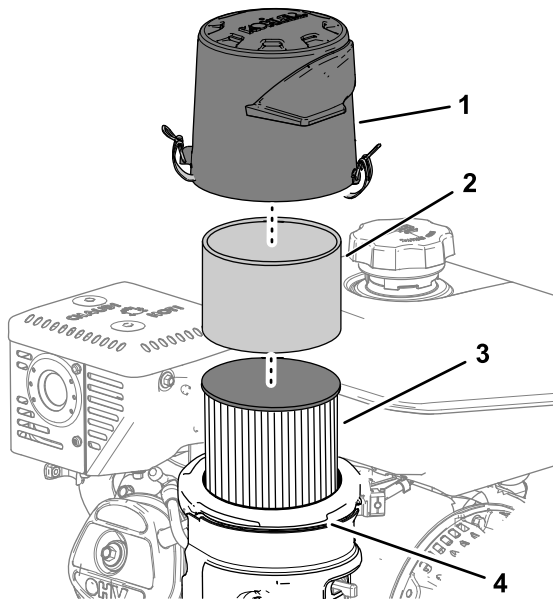

Figure 71
3. Remove the cover and thoroughly clean it (Figure 71).
1. Remove the foam pre-cleaner from the paper element.(Figure 71).
1. Remove and inspect the paper air-filter element (Figure 71); if the air-filter element is excessively dirty, replace it.
3. Install the foam pre-cleaner onto the air-filter element (Figure 71).
4. Install the air filter assembly to the air-filter base (Figure 71).